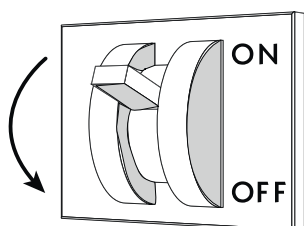

Fig. 27
- Disconnect the power supply to the cabinet using the wall-mounted main switch-disconnector ("Fig. 27").